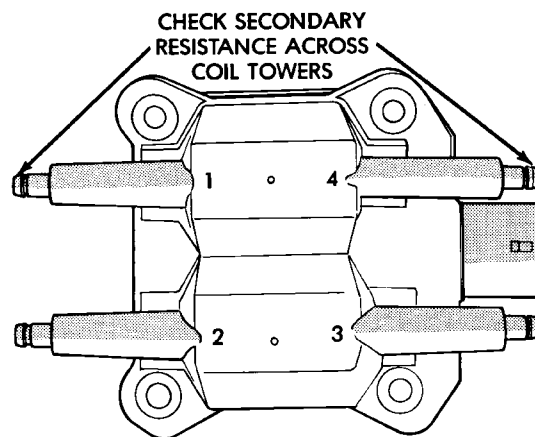

Fig. 19 Checking Ignition Coil Secondary Resistance
(4) Remove ignition cables from the secondary towers of the coil. Measure the secondary resistance of the coil between the towers of each individual coil (Fig. 19). Secondary resistance should be 11,000 to 14,000 ohms. Replace the coil if resistance is not within tolerance.